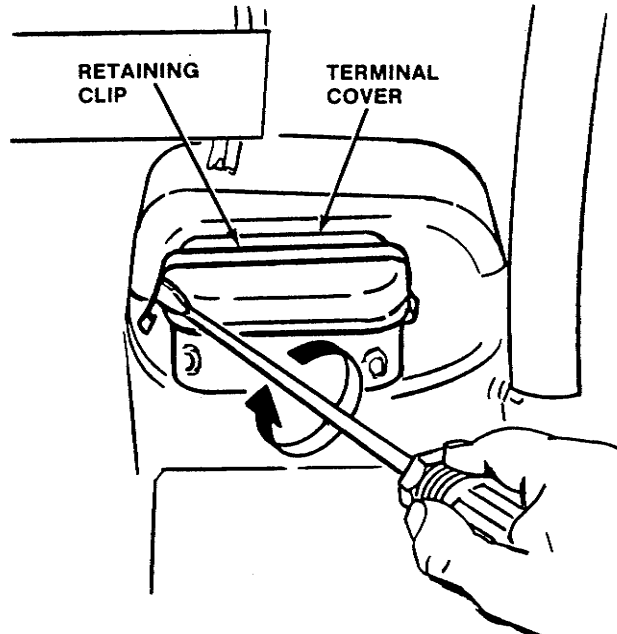

Figure 32. Compressor Terminal Cover
4. Remove the compressor terminal cover by inserting a standard screwdriver under the terminal cover retaining clip from the right side of the freezer and gently prying off (Fig. 32).